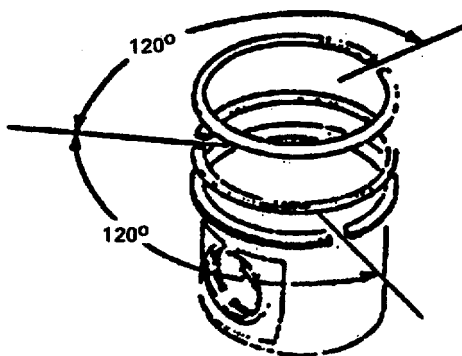

FIGURE 3-84. Piston Ring Position.
- e. Check rings for position, FIGURE 3-84, and use a piston ring compressor to compress rings.